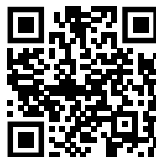

Fig. 184
- Otvorite Liebherr SmartMonitoring Dashboard. (pogledajte Fig. 184)